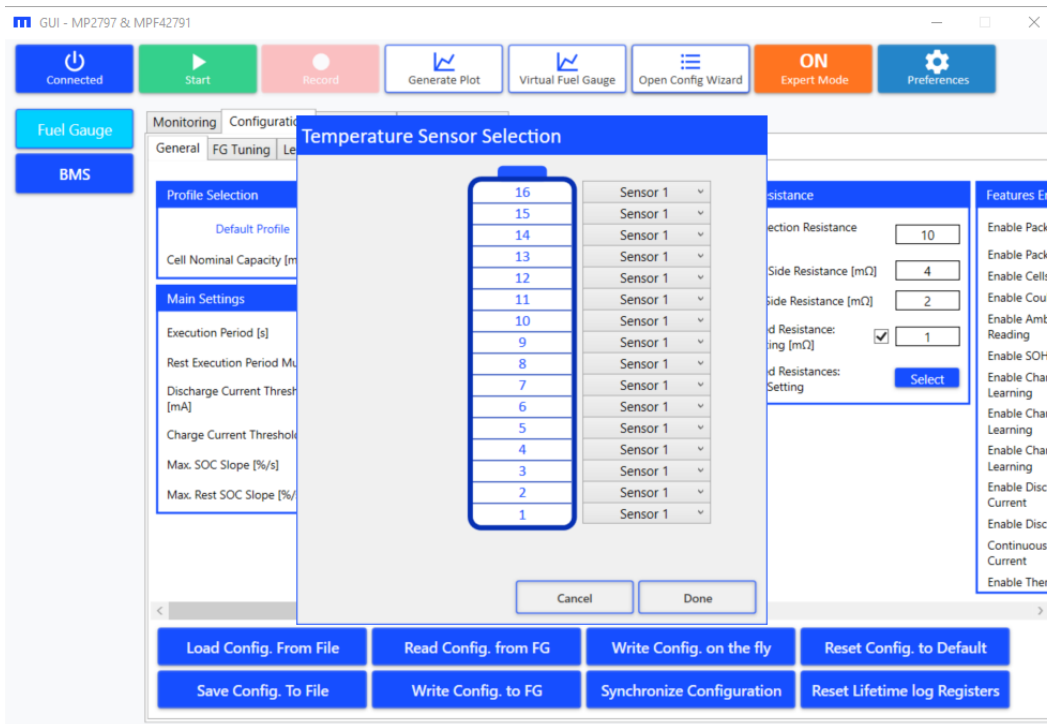

Figure 43: Temperature Sensor Selection Window
- b. The second “Select” button opens the wizard to assign a temperature sensor to each cell (see Figure 43). Note that the number of temperature sensors should be set first.